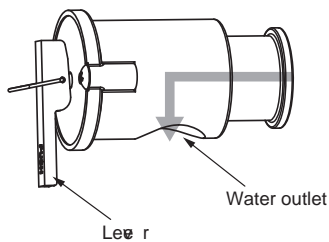

Fig. 4-2
4.4. Parts which require regular inspection (Fig. 4-2)